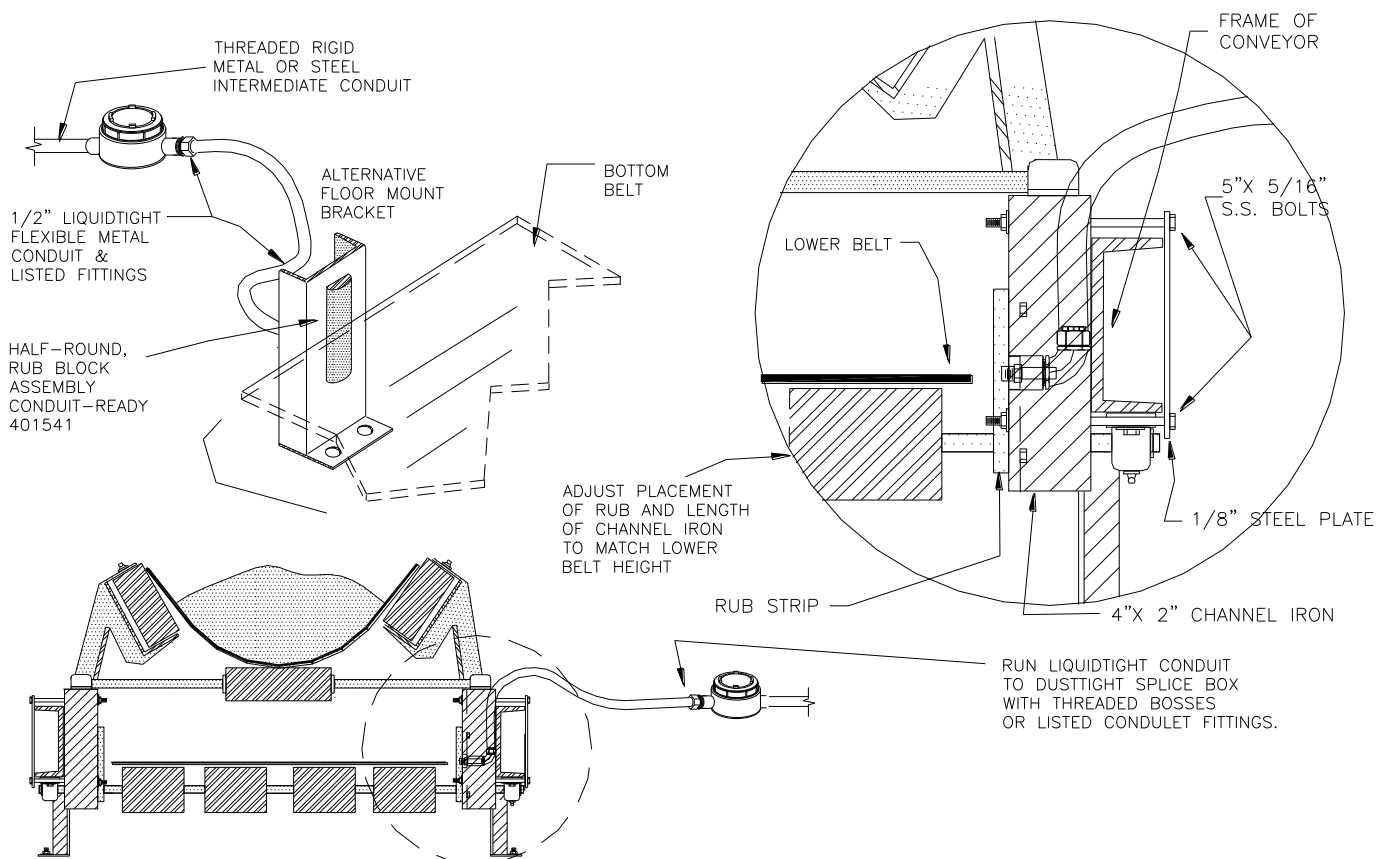

Figure 24. Rub Mounted on an Open Frame Conveyor
6.6.1.3.1. In some cases it is desirable to mount rub blocks on open frame conveyors. Some suggestions on possible mounting configurations can be found in Figure 24.